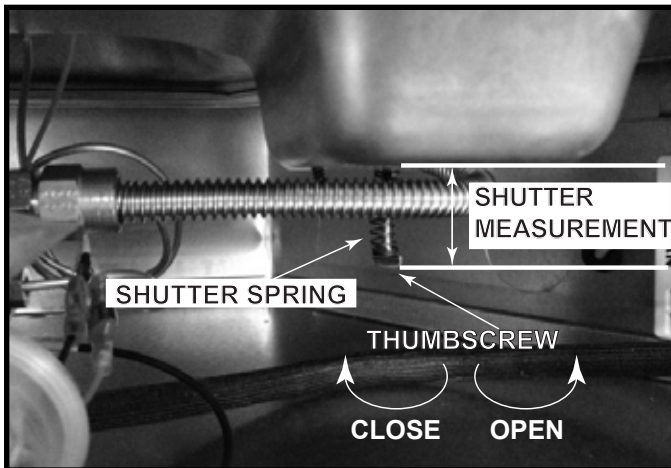

Figure 9.1 Air Shutter
- Adjust air shutter for longer vertical runs. See Figure 9.1. Turn the thumbscrew to open or close the air shutter. It may be necessary to use a pliers or crescent wrench to adjust the shutter. See chart below for correct shutter settings. The shutter measurement is taken from the bottom of the tub to the bottom of the thumbscrew. See Figure 9.1.